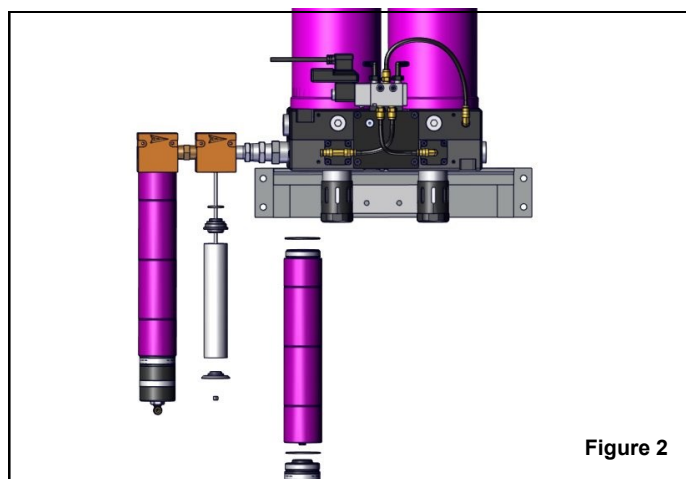

Figure 2
6. Remove bottom baffle, filter element, top adaptor, and O-ring. Figure 2